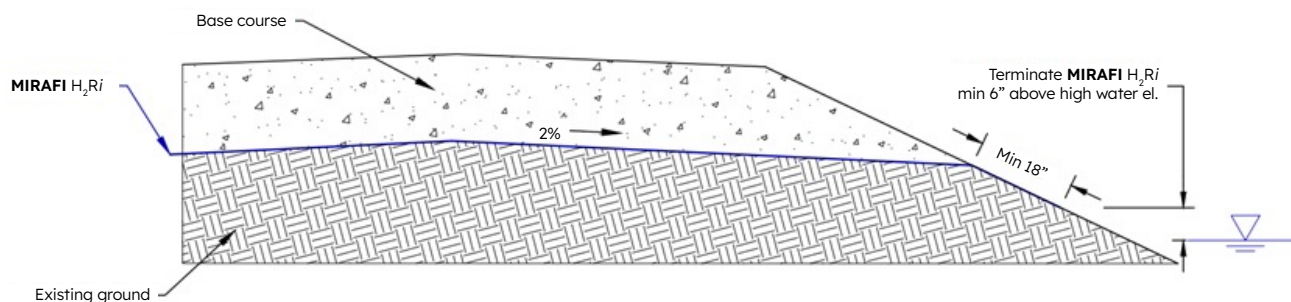

Figure 7: Embankment MIRAFI H₂Ri daylight into ditch detail
- 3. Daylighting** – Best for maximum water removal from a cross section. Evaporation at the exterior drives water movement outward from the interior. A directional gradient should be incorporated with this approach in combination with a minimum 18 in (458 mm) draped exposure of **MIRAFI H₂Ri** at the exterior (along the ditch), as shown in Figure 7. If **MIRAFI H₂Ri** is terminated above a shoulder drainage ditch, care and maintenance of the ditch should be maintained to ensure water does not back up to the level of **MIRAFI H₂Ri**. This could include clearing and cleaning of the ditch to ensure proper drainage.